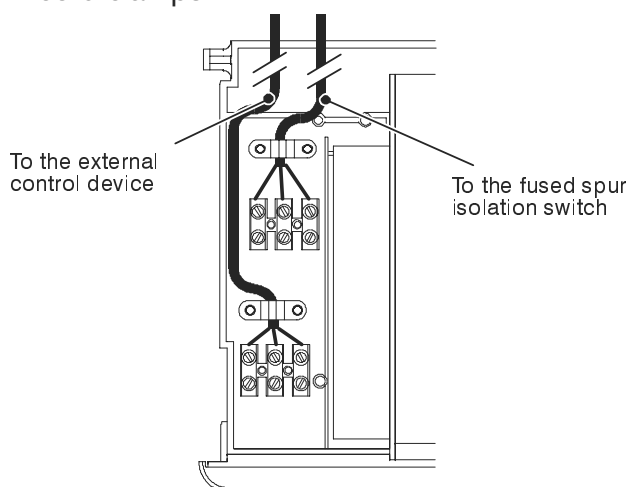

Fig. 6.14
- 9 Route the electrical supply flexible cord and the external control flexible cord as illustrated in Fig. 6.14. Lock the flexible cords in place with the flexible cord clamps